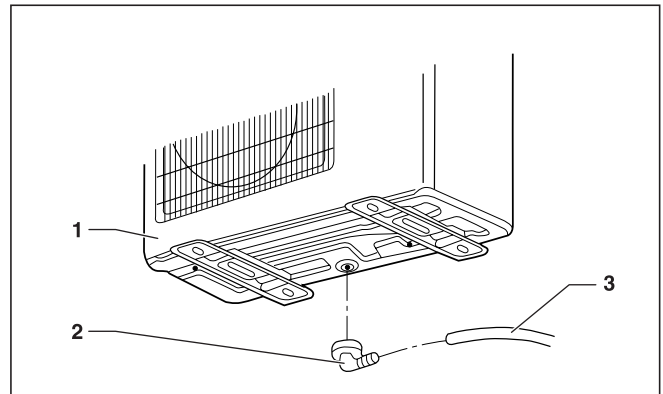

Fig. 10.2 Assembly of the drainage elbow for condensed water
- Insert the elbow included in the supply in the hole provided at the bottom of the outdoor unit and turn it 90° to fix it (see Figure 10.2).